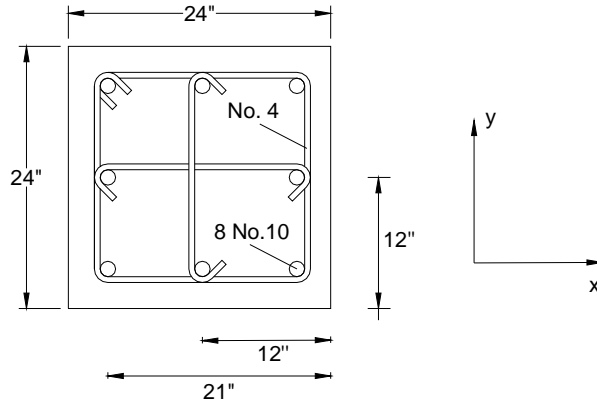

Figure 3. Section view of column and reinforcing steel layout.
2.1) For the column shown in Figure 3:  $f'_c = 6$  ksi, and  $f_y = 60$  ksi. The effective depth of the column is  $d = 21$  inches. Under combined factored axial load  $P = 600$  kips and flexure determine the nominal flexural ( $M_n$ ) resistance, for bending about the y axis, of the column. **Consider the contribution of steel in compression. (20 points)**
2.2) The structural system shown in Figure 4 consists of a wall coupled with a gravity system and is designed for earthquake resistance. Due to deformation compatibility with the wall the gravity columns of the bottom story are required to be designed to be able to develop their probable flexural strength  $M_{pr}$ . If the gravity columns have the section shown in Figure 3 design the shear reinforcement of the columns of the bottom story. Show the design shear force diagram as well as an elevation of the transverse reinforcement layout. The vertical loads given are already factored. **(30 points)**